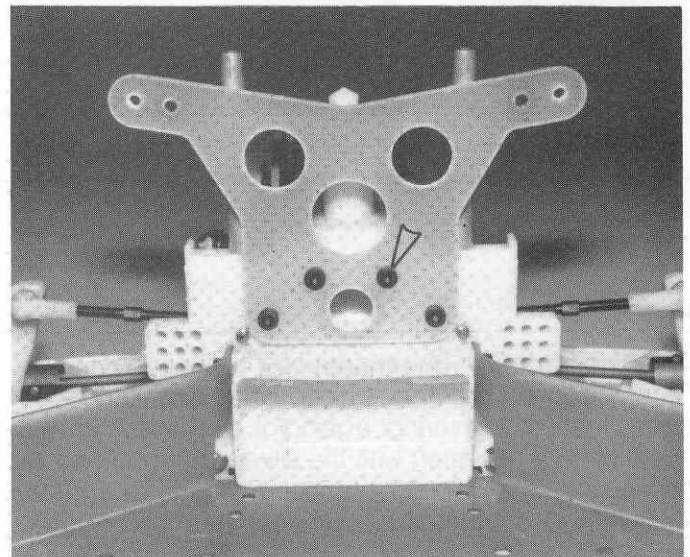

Fig. 135
□ **Fig. 135** Also in Bag #6-4 is the #6378 rear shock strut. Assemble this to the rear bulkhead with the 4 Allen screws, as shown.